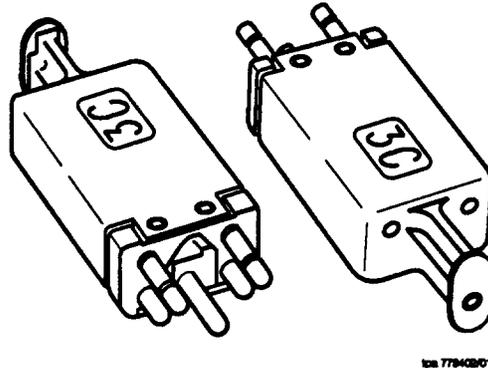

Figure 2. Typical 3-Type Protector Unit
2.02 The 3-type plug-in protector units (Figure 2 and Tables B and C) provide voltage protection only, using carbon blocks, gas tubes, or solid-state devices for voltage limiting. (If sneak current protection is a concern, the 4-type protector units with heat coils should be considered.)